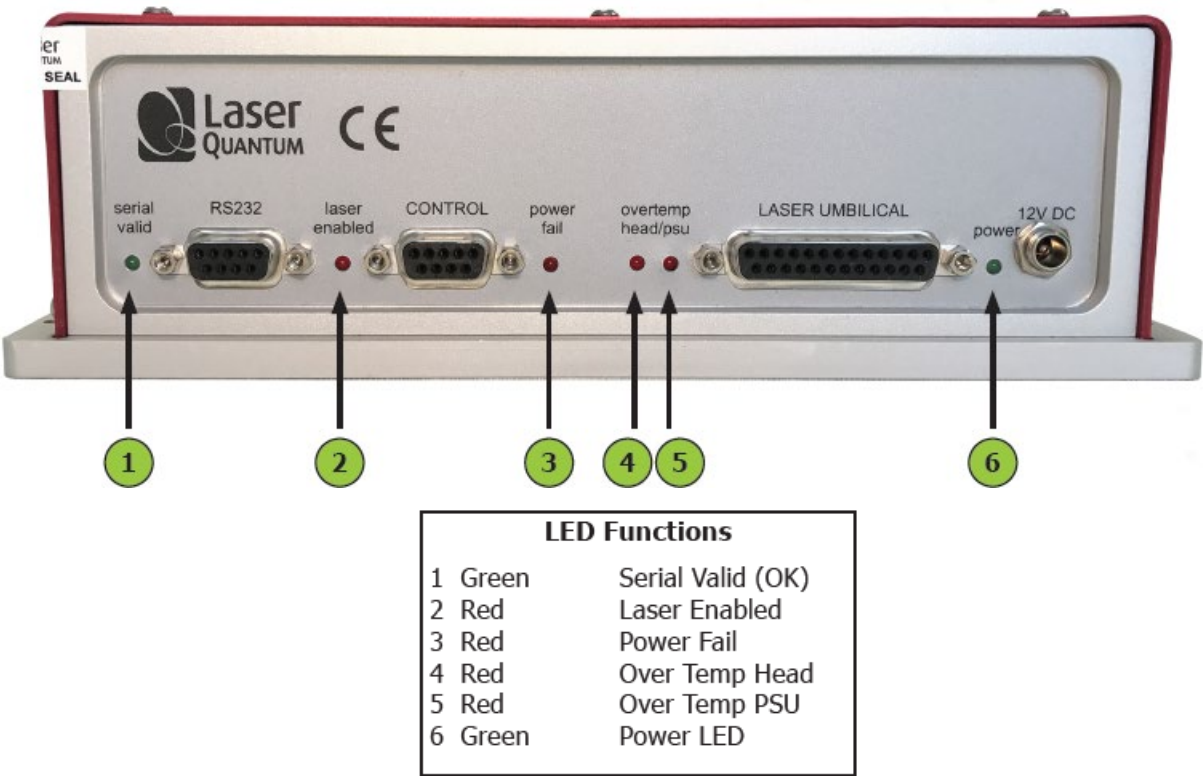

Figure 4-2
- 4 The analogue Control port (see Figure 4.2) is multi-functional as it has connections for Interlock, Enable Switch and Laser Power Control/Modulation. The Interlock must be closed to allow the laser to operate and this can be achieved using the supplied green-spot Interlock Dongle.
The **MPC600** can be operated directly via the control port (see Figure 4.2) by applying 0 to 5 V, interlocks and push button in accordance with the diagrams in this section.